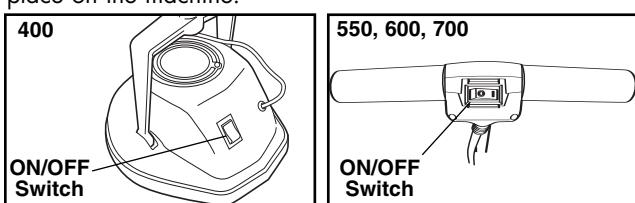

Figure 2. Orbiter® Multi-Floor Machine On/Off switch
The on-off switch is located on the back side of the motor housing (**400**) or on the handle (**550, 600, 700**). It has been designed to be conveniently activated. On (I) - Off(O) is printed on the switch. (See Figure 2.) BE CAREFUL that the switch is in the OFF (O) position before you plug the electrical cord into the outlet. Before turning the machine on, be sure there is a bonnet pad or brush in place on the machine.